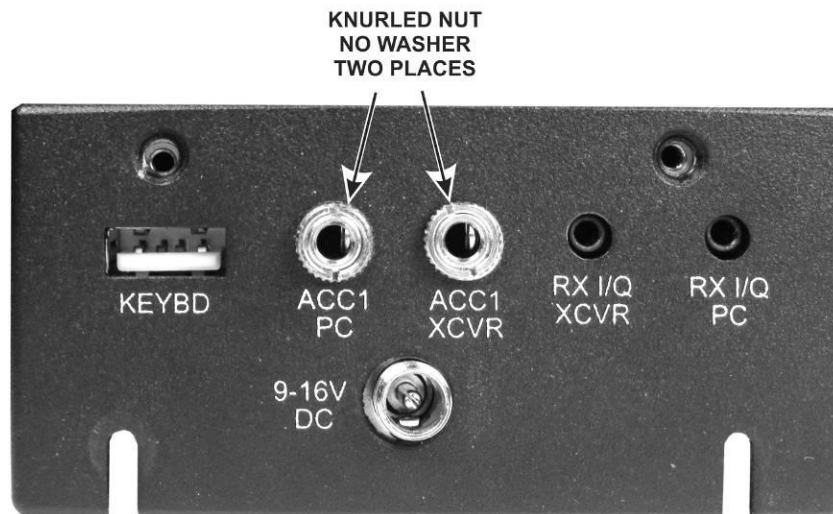
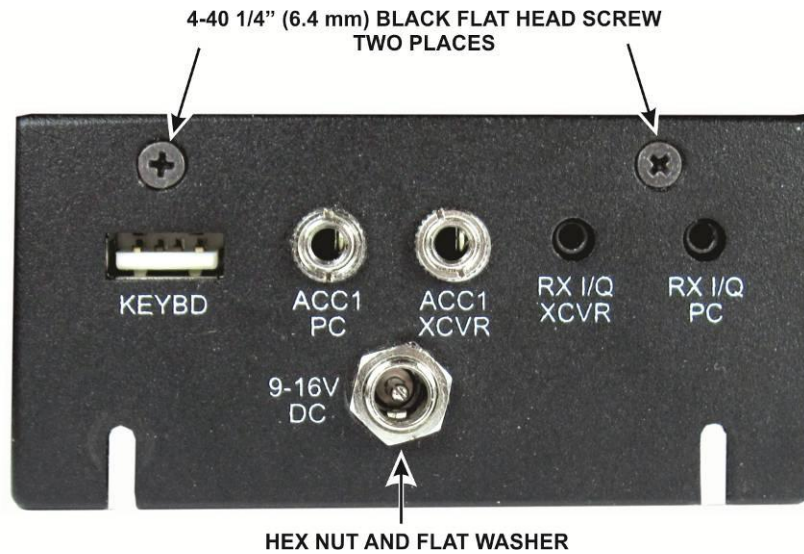

Figure 39. Mounting the Left Side Panel Part 1.
Figure 40. Mounting the Left Side Panel Part 2.
- Add the hex nut and washer on the power connector and the two flat head screws as shown in Figure 40 to complete mounting the left side panel.
To remove the boards, first remove the nuts on the connectors on the left side panel, and then the two screws holding the side panel on the front panel assembly (See Figure 39 on page 58 and Figure 40 on page 59).